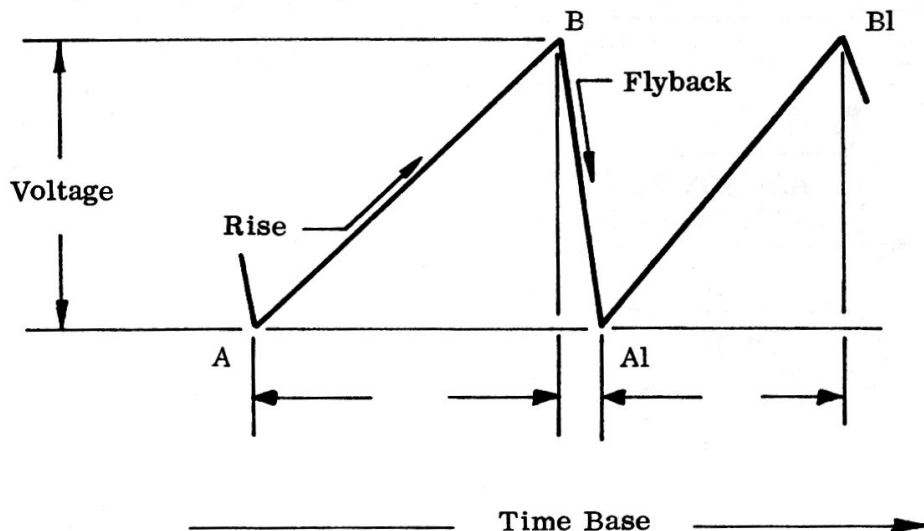

Figure 4 Saw Tooth Waveshape
Figure 4 illustrates the sawtooth voltage that is used for the sweep by applying it to the horizontal deflection plates. The voltage is made to rise from point (A) along a straight line to point (B). This is known as a linear rise. If this voltage is applied to the horizontal deflection plates, the electron beam will move as desired, i. e. from left to right. In order to return the beam to the left again, this voltage must drop down to the value it had at point (A). Time T1 is called the rise time while T2 is called the flyback time, since it represents the time during which the beam is being moved back to the starting point. The return trace is blanked out by means of a blanking amplifier so this portion of the trace is not visible on the screen. The simplest way of obtaining the gradual rise in voltage followed by a sudden drop is by charging and discharging a condenser. This is generally accomplished by means of a relaxation oscillator.